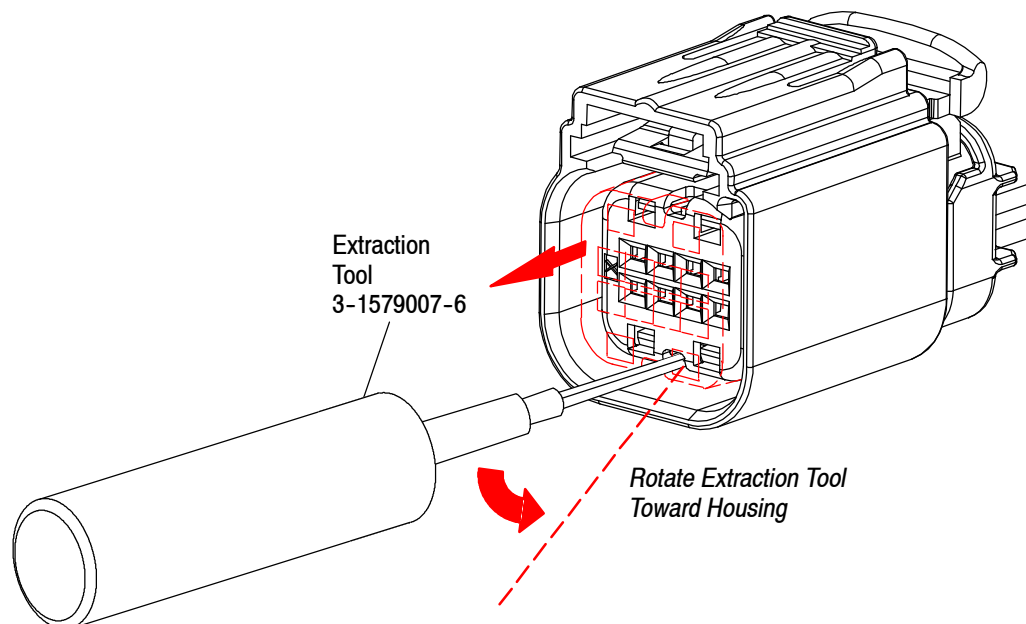

Figure 8
1. To disengage the TPA, insert Extraction Tool 3-1579007-6 in the center of the plug connector housing cutout on the TPA. Rotate the extraction tool toward the front of the connector to disengage the TPA. See Figure 8.